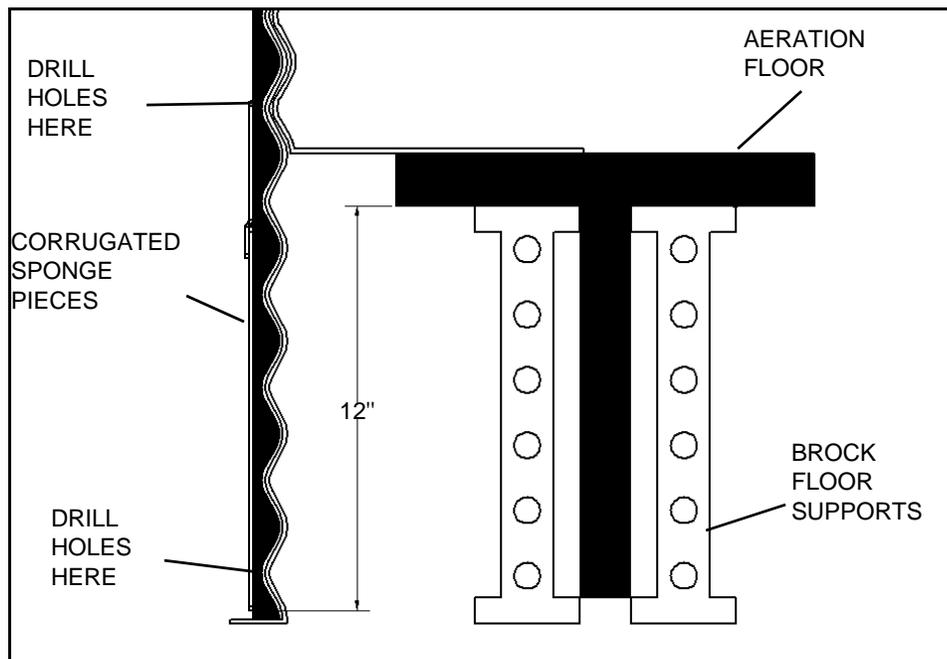

Figure 3.5
2. Cut hole in bin wall at location designated for discharge spout. Cut a hole that measures approximately 12" wide x 12" high (as seen in Figure 3.5).
1. Two corrugated sponge pieces (not supplied) can be arranged as seen in Figure 3.5. Drill nine holes through the pilot holes in the bin plate adapter (top & bottom) and the bin wall. Using the six 7/16" x 1" bolts and locknuts provided, secure the bin plate adapter to the outside of the bin. Tighten securely.